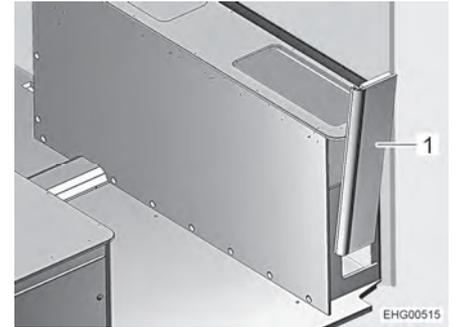

Fig. 122 Bedding box on the right, side wall
- Remove the side wall (Fig. 122,1) upwards with light shaking movements.